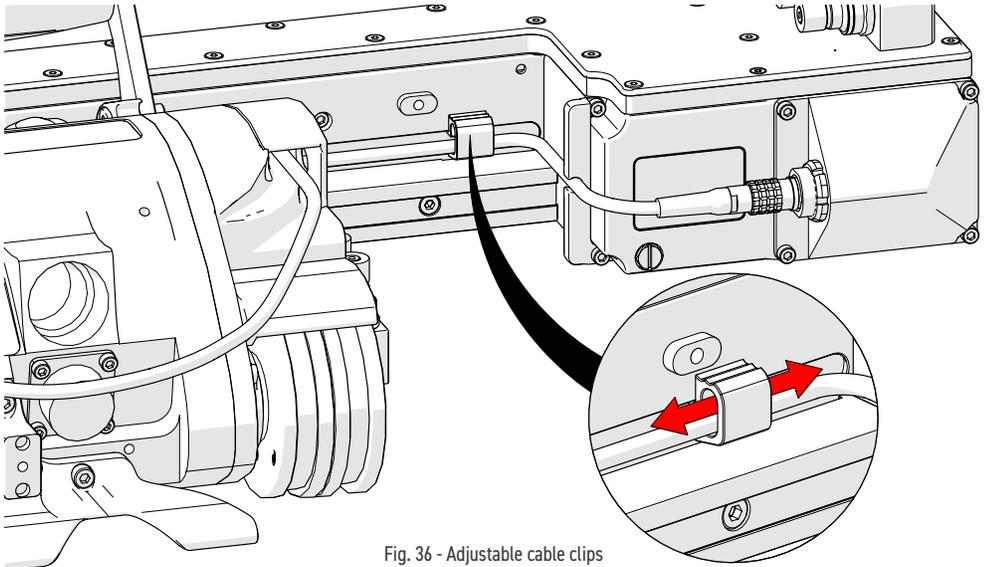

Fig. 36 - Adjustable cable clips
2. Route the Raster Arm cable through the cable management clips and press the clips onto the side of the Raster Arm HT (Fig. 36). These clips slide along the Raster Arm HT, allowing the raster arm cable to be positioned as required.